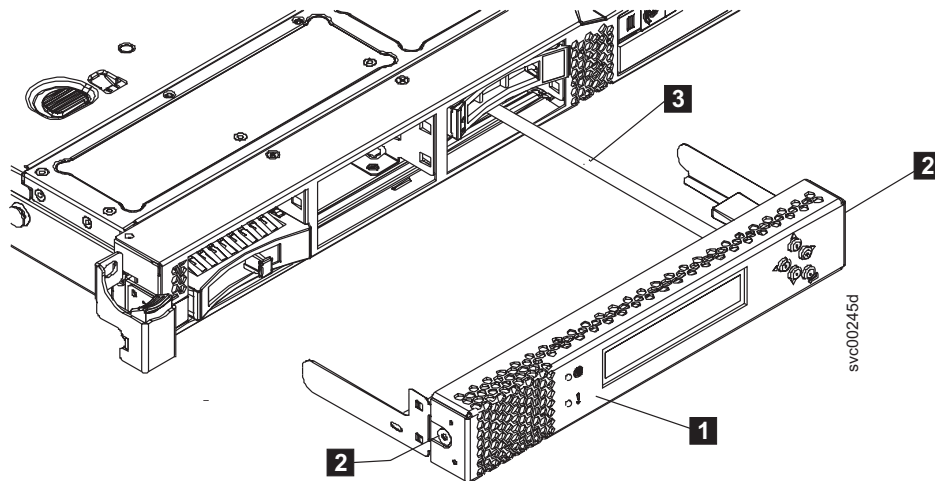

Figure 72. Service controller for the 2145-CG8 or 2145-CF8 with attached USB cable
6. Gently press both release buttons, shown by **2** in Figure 72, and release the catch while pulling gently forward on the service controller.